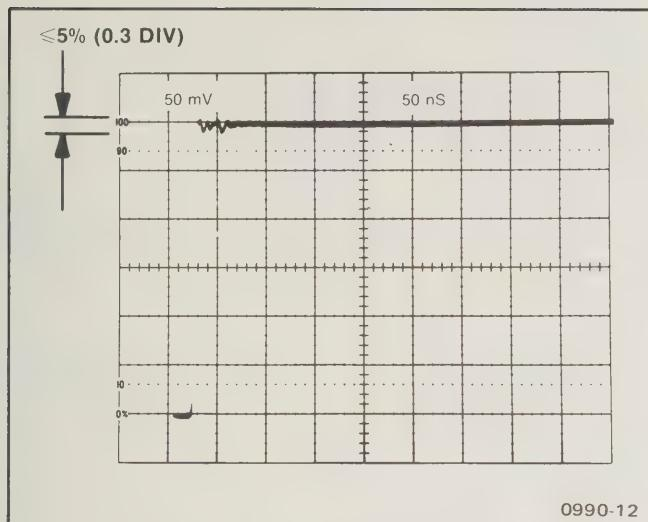

Fig. 5-4. Pulse response with high frequency compensation properly adjusted.
g. CHECK—Front-corner square-wave aberrations of less than 5%, excluding the effects of the test oscilloscope. Fig. 5-4 illustrates typical response when high-frequency compensation is properly adjusted ($5\% \times 6$ Div = .3 Div). Excessive aberrations caused by the generator can be reduced by pulling the Back Termination switch on the pulse generator.
e. Set the pulse generator Pulse Duration control to SQ Wave and the Period control to $1\ \mu\text{s}$. Set the Output (Volts) for six divisions of deflection, and set the test oscilloscope triggering controls for a stable display (see Fig. 5-4).